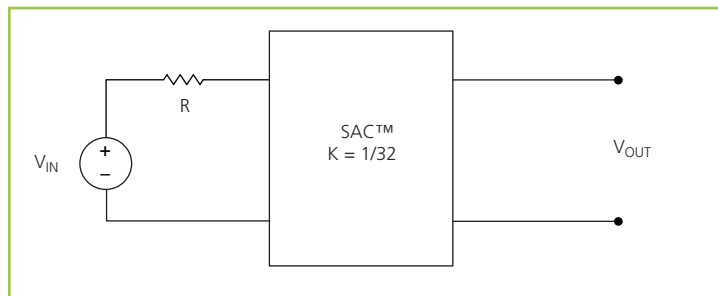

Figure 15 — K = 1/32 Sine Amplitude Converter™ with series input resistor
The use of DC voltage transformation provides additional interesting attributes. Assuming that ROUT = 0 Ω and IQ = 0 A, Eq. (3) now becomes Eq. (1) and is essentially load independent, resistor R is now placed in series with VIN as shown in Figure 15.
Assuming that $R = 1 \Omega$, the effective R as seen from the secondary side is $0.98 \text{ m}\Omega$, with $K = 1/32$ as shown in Figure 15.